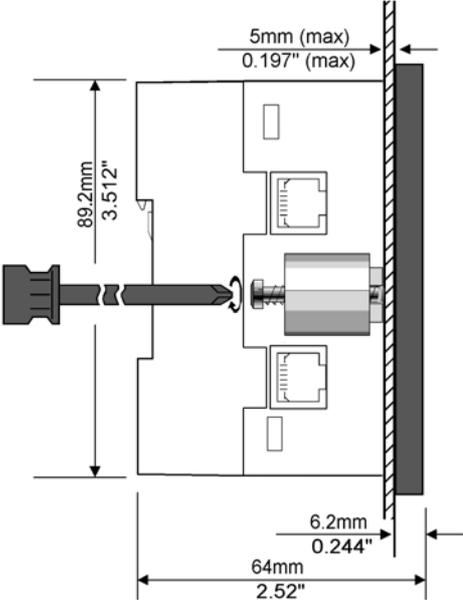

Figure 3. Panel Mounting the Controller
5. Tighten the bracket screws against the panel as shown in Figure 3, page 11.